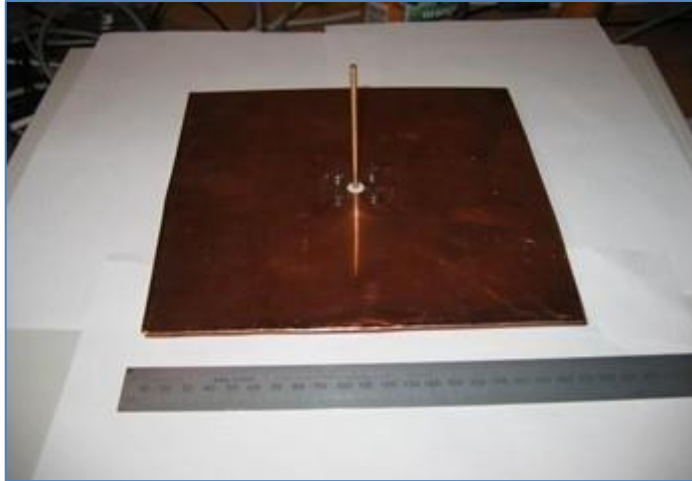

Figure 9.1: Monopole antenna
1. Create a Monopole Antenna Geometry as shown in the figure 9.1. Calculate the radiation efficiency of the monopole antenna using the simulated radiation pattern and the input power.